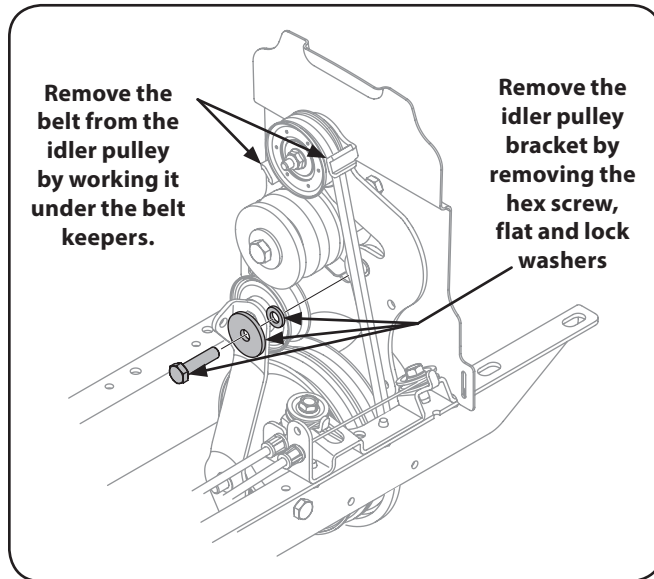

Figure 7-4
- Remove the idler pulley bracket by removing the $\frac{5}{16}$ -24 hex screw, flat washer and lock washer, as in "Figure 7-4".